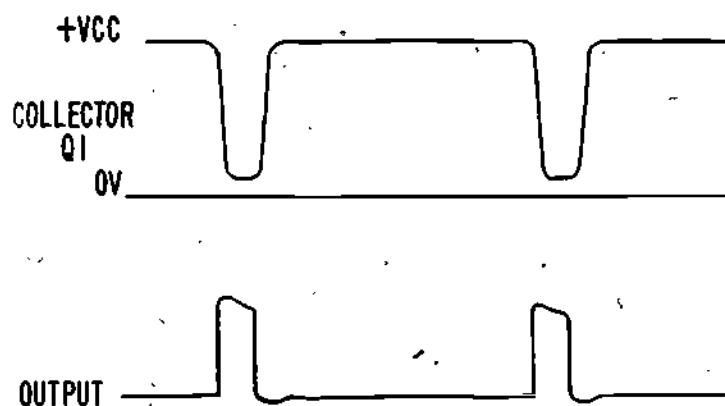
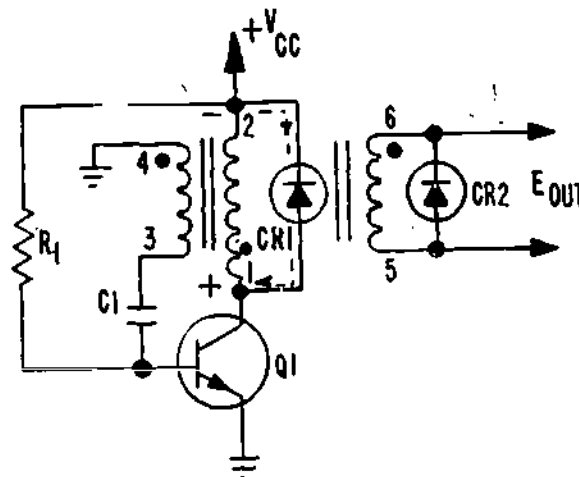

Figure 13
Figure 12
18. Another method of reducing the ringing is to connect a diode across the output winding of the pulse transformer. This is also shown in Figure 12. The diode becomes forward biased whenever the output voltage at terminal 6 swings negative in relation to terminal 5. Because of this diode action, the output is limited or clamped to within a few tenths of a volt. The waveforms shown in Figure 13 illustrate the output resulting from the uses of the clamping diodes.
17. There are two methods which are commonly used to eliminate the inductive overshoot or ringing. A common technique is to use a clamping diode as shown in Figure 12.